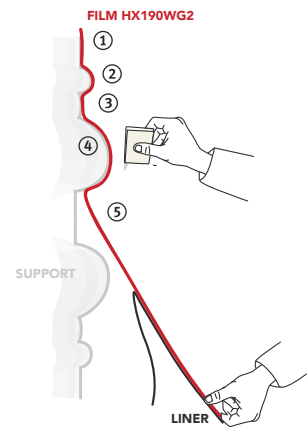

Fig.07
- › Remove the liner gradually by tensioning it towards the lower end (FIG. 07).
- › Apply the hollow ① then the peak ② and the hollow ③.
- › Go up onto the next peak ④ then go to ⑤ until the installation is completed.